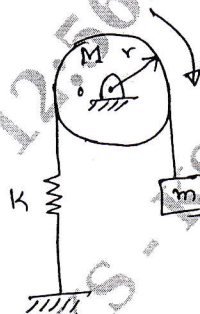

Fig.Q.7(b)
- b. Find the natural frequency of the system shown in the Fig.Q.7(b) using energy method. (08 Marks)